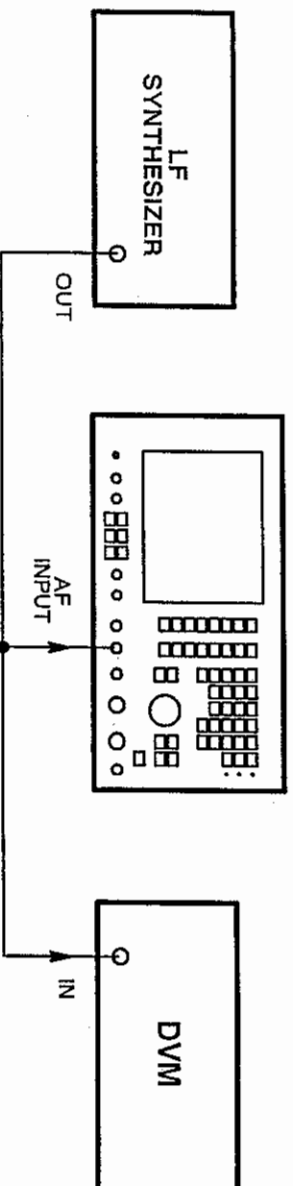

Fig. 6-11 Test equipment connections for AF frequency meter frequency and sensitivity
- (1) Connect the LF synthesizer 1 MHz standard output to the EXT STD 1 MHz socket. Connect the LF synthesizer variable output to the AF INPUT socket. See Fig. 6-11.
- (2) On the 2955A, set the MODE to AUDIO TEST, AC DC to AC, FILTER to 50 kHz LOW PASS and DISTN to off.